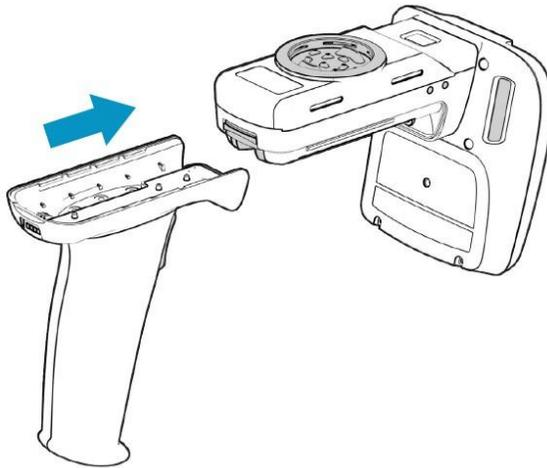

Figure 10 Slide Handle Grip On Main Unit
5. Slide the handle grip back onto the main unit (Figure 10).